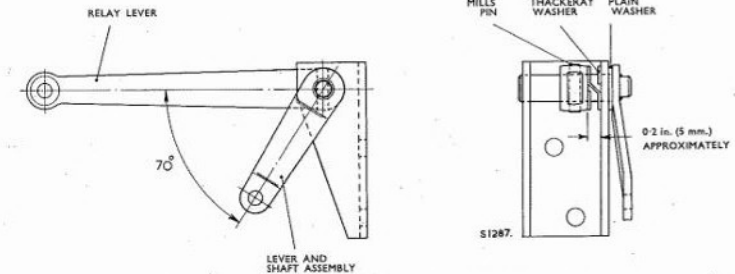

Fig. C.27. Accelerator relay shaft arrangement, showing the angular disposition of the relay levers (R.H.D. Models)
2. Assemble the relay lever, and the shaft and lever assembly to the support bracket, ensuring that the levers assume the correct angular position (see Fig. C.27). Drill the relay lever and shaft, securing the components using a Mills pin. The location of the relay lever should be such as to compress the thackeray washer to approximately .2 in. (5 mm.). The plain washer should be positioned on the outside of the bracket abutting the shaft lever.